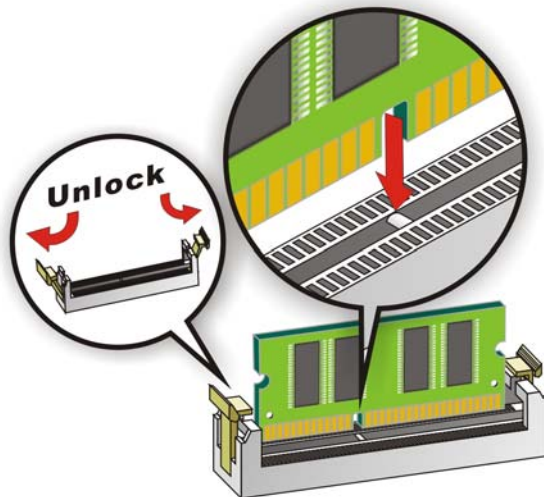

Figure 4-6: SO-DIMM Installation
To install a SO-DIMM, please follow the steps below and refer to **Figure 4-6**.
Step 1: Open the SO-DIMM socket handles. Open the two handles outwards as far as they can. See **Figure 4-6**.
- Step 2: Align the SO-DIMM with the socket.** Align the SO-DIMM so the notch on the memory lines up with the notch on the memory socket. See **Figure 4-6**.
- Step 3: Insert the SO-DIMM.** Once aligned, press down until the SO-DIMM is properly seated. Clip the two handles into place. See **Figure 4-6**.